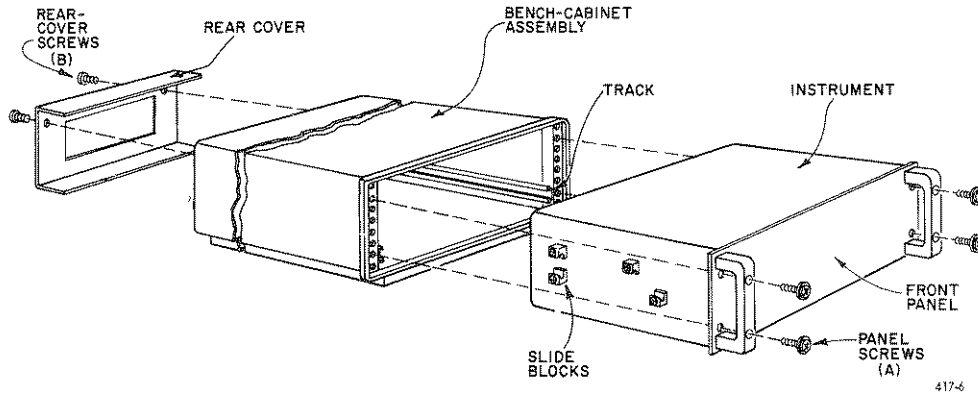

Figure 2-2. Bench-cabinet installation.
- d. Remove the rear cover from the bench cabinet, with screws (B Figure 2-2) , for later installation on the rack cabinet.
d. Fasten the instrument to the cabinet using dress-panel screws (A, Figure 2-2).
e. Transfer the rear cover, with screws (B), from rack cabinet to bench cabinet.